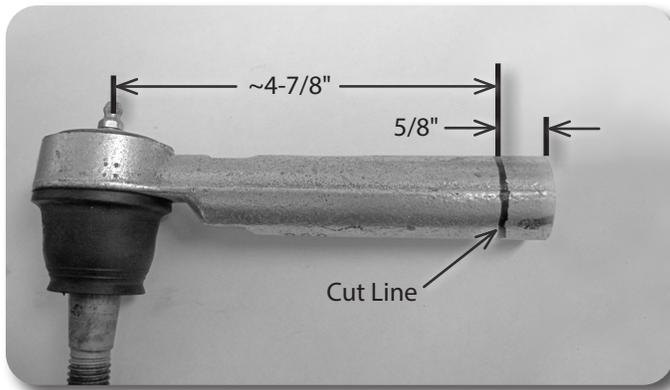
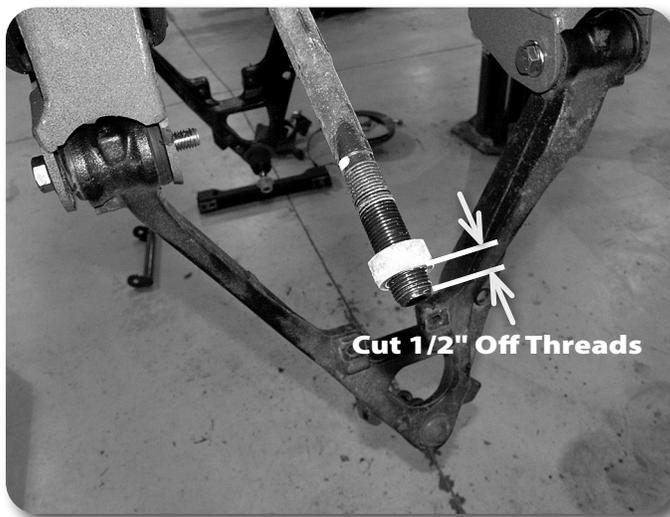

Figure 16
Figure 17
39. Working on one side at a time, remove the tie rod end from the steering link. Trim 5/8" off the tie rod end so the end to center measurement is approx. 4-7/8". **Figure 16.** Trim only 1/2" off of the steering link for maximum thread engagement. **Figure 17** Once the two pieces are trimmed, clean the ends of the threads and reinstall the tie rod end on the steering link so there is about 1/8" of threads showing on the steering link. Repeat on other side of the vehicle.